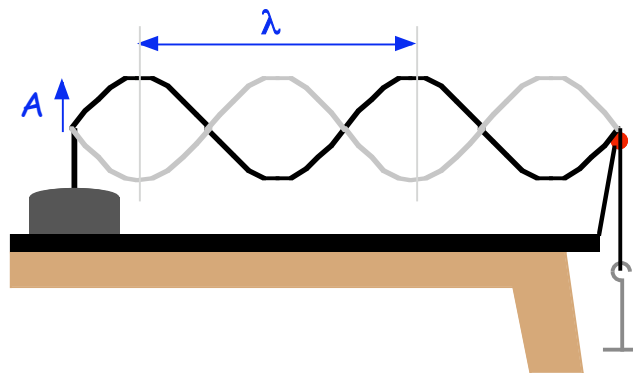

Figure 1: Wave Characteristics
In this experiment we will be studying transverse waves on a string. Recall that a transverse wave is one in which the vibrations are perpendicular to the direction of wave motion. We will use a small mechanical oscillator to vibrate the end of the string up and down, thereby producing a wave as depicted in figure 1.
As the two waves pass each other, the crests of the first wave will pass by the crests of the second, then troughs, then crest, and this will continue in an alternating pattern. So, when we look at our string we will alternately see constructive interference of the waves and destructive interference of the waves. It will seem to bounce back and forth between the dark and light waves we see in figure 1. We call this superposition of two waves a standing wave. It seems to stand in the same place, but bounces between its two orientations. Note that there are some points along our wave that always have zero amplitude! We call these points nodes, halfway between them we see regions in which we have maximum amplitude. These are called anti-nodes.
Now, we can put a tension in the string by pulling on it, or applying a force on the hanging end as shown in figure 1. Thus, the tension, T , is equal to mg .
- 1) Set up the oscillator, function generator, and string as shown in the introductory photograph and figure 1.
- 1) Again, set up the oscillator, function generator, and string as shown in the introductory photograph and figure 1.